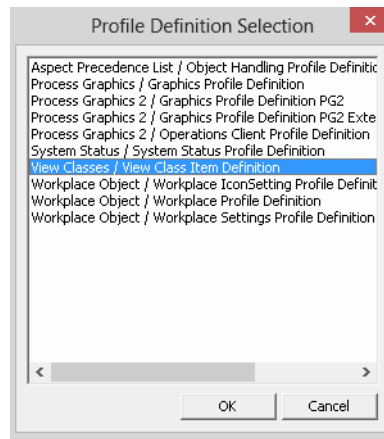

Figure 74. Profile Definition Selection
4. Double-click the **Viewclass values** aspect. The **Profile Definition Selection** dialog appears (see Figure 74). Select **View Classes/View Class Item Definition**.